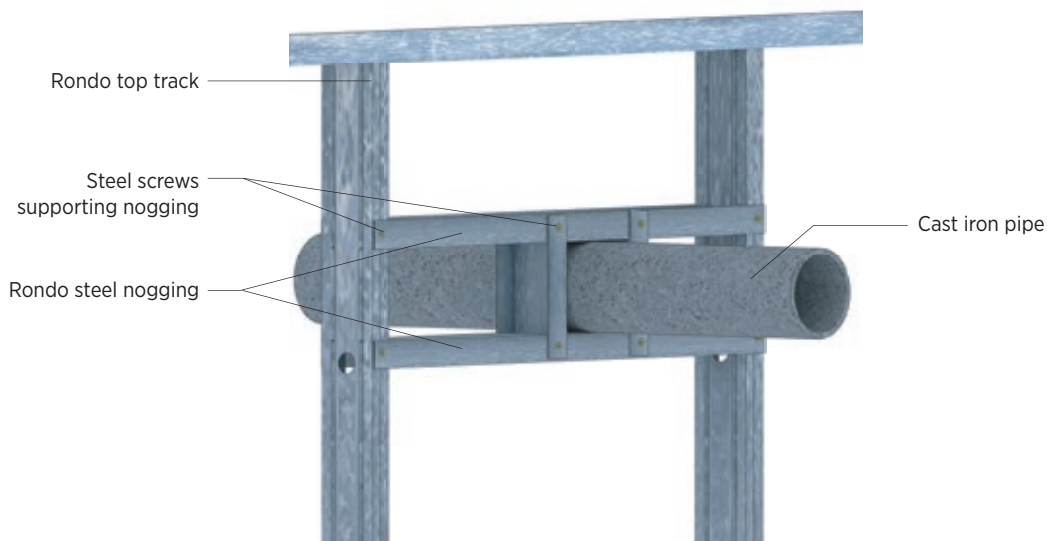

Figure 63: **Penetration Detail - Framing Support Construction**
2. Install Rondo nogging track around the pipe penetration and screw back to the steel framing as shown in Fig. 63.